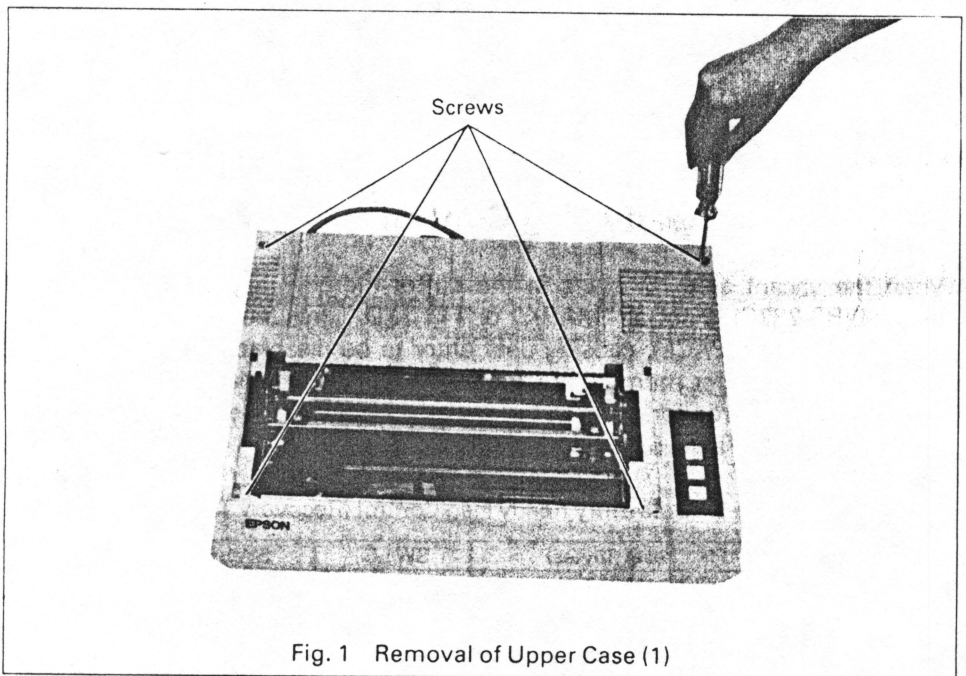

Fig. 1 Removal of Upper Case (1)
- (2) Pull and remove the manual paper feed knob.
- (3) Remove the four screws shown in Fig. 1.